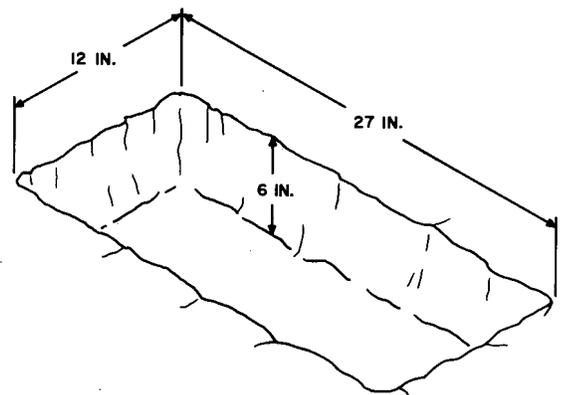

Fig. 15—Excavation Dimensions (UP-1254)
7.01 Being careful not to damage the cables, excavate a hole to the dimensions illustrated in Fig. 15 or 16.